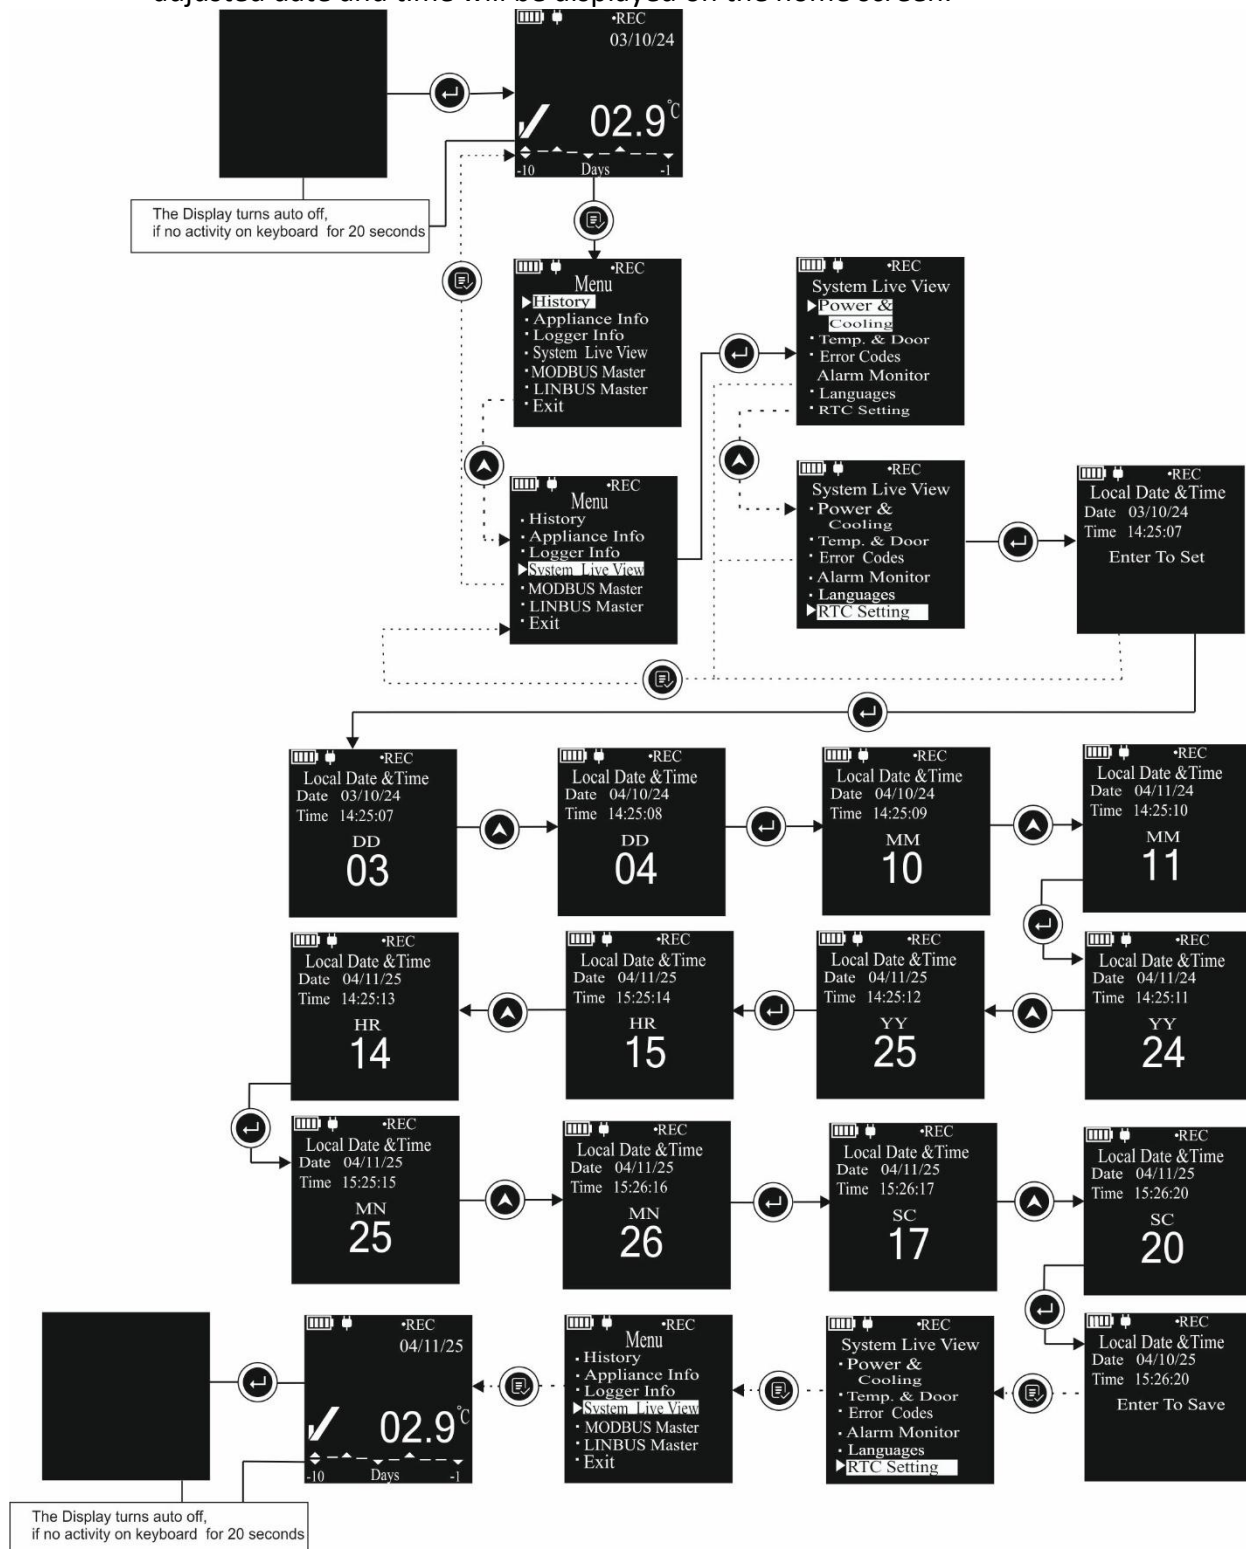

Figure 26 RTC Setting Menu
7. **RTC Setting#**: The device has an ability to set the local date and time through RTC Setting menu as shown in figure 26. To set the Local date and time follow the steps outlined in figure 26 completely to set the date and time properly. Use the "Up" key to update a parameter and the "Enter" key to proceed to the next parameter. The adjusted date and time will be displayed on the home screen.